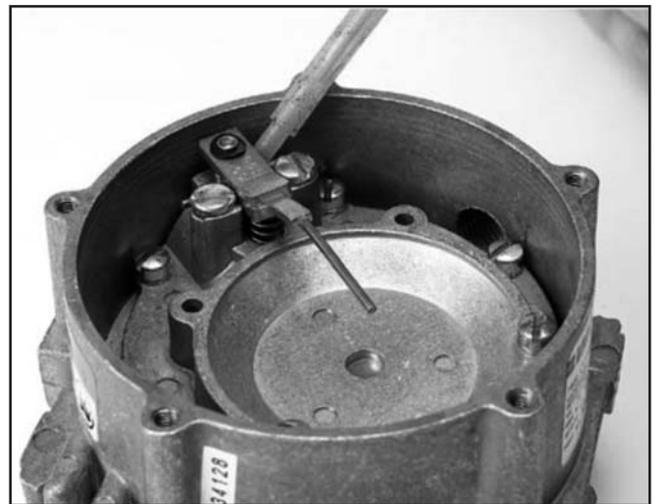

Figure 3-27. Check Secondary Seat for Leaks
15. Check around the secondary seat for leaks using a liquid leak detector solution. If a leak is detected, repeat Step 11 to insure no leakage at the secondary seat. See Figure 3-27.